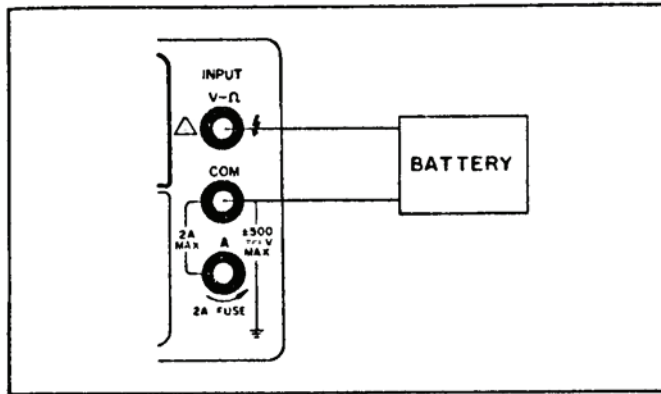

Figure 3-5. DC Voltage Measurements
- c. Connect test leads from the Multimeter VΩ (high) and COM (low) terminals to the voltage under test as shown in Figure 3-5.